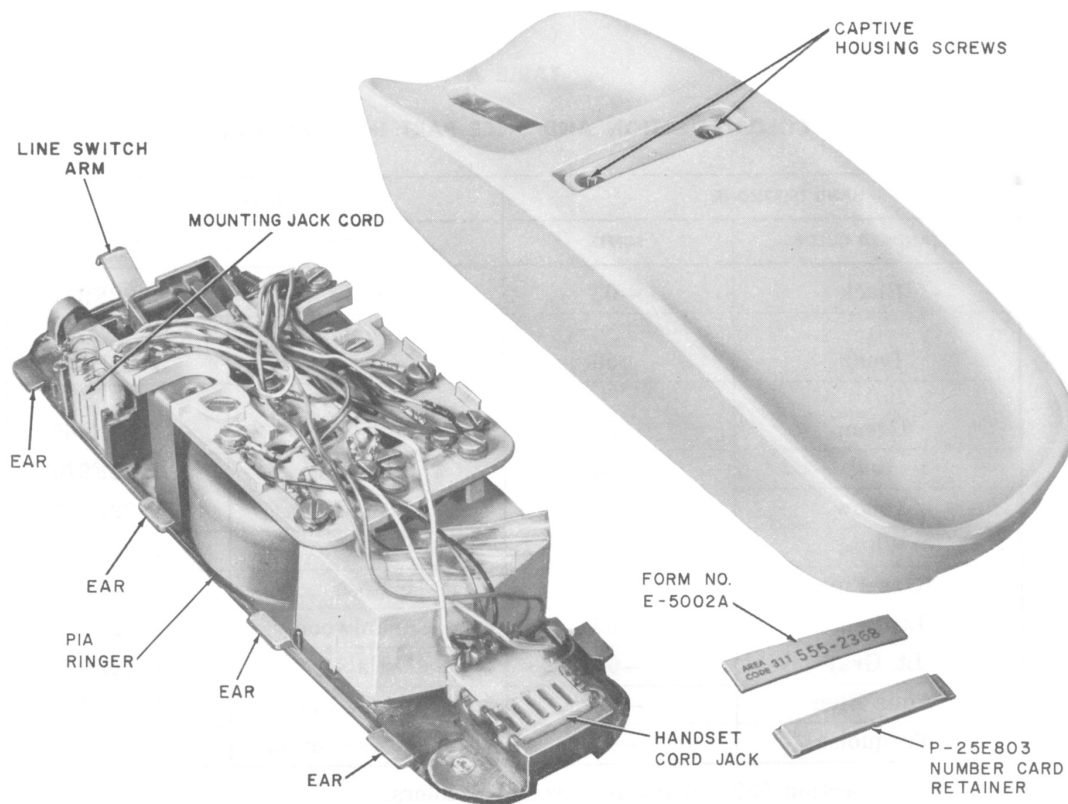
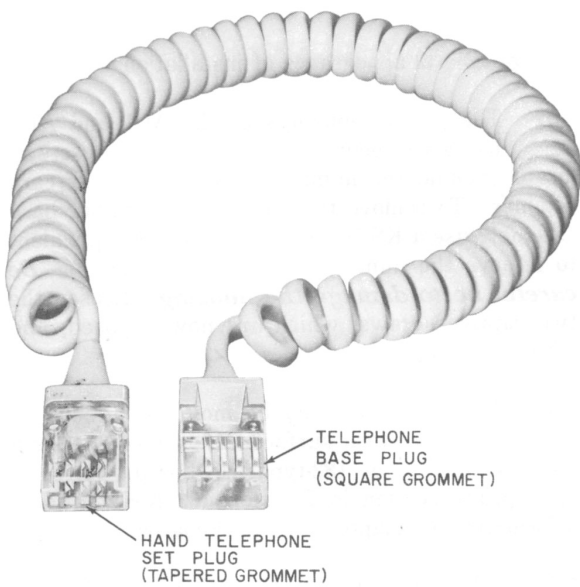

Fig. 3—Interior of AD1 Telephone Base
Fig. 4—H4DB Cord
- Equipped with jack (Fig. 3) to accommodate a plug ended handset cord (Fig. 4).